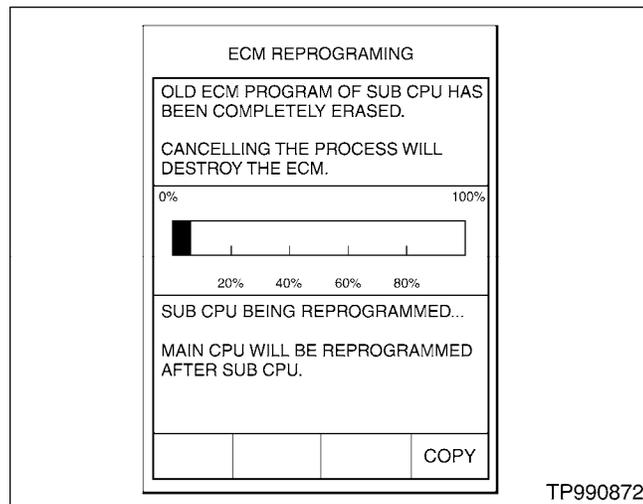

Figure C11
19. Press "**START**". After a moment the window shown in Figure C11 (next page) will come up. CONSULT-II will now turn OFF its screen "backlight" and begin to reprogram the ECM.